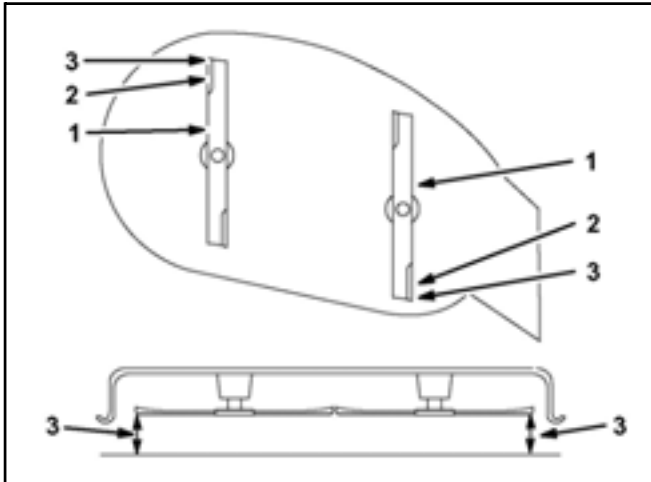

Figure 98
- Measure from the tip of the front blade to the flat surface and the tip of the rear blade to the flat surface (Figure 98). If the front blade tip is not 1/16 - 5/16 inch (1.5 - 8mm) lower than the rear blade tip, adjust the front locknuts.